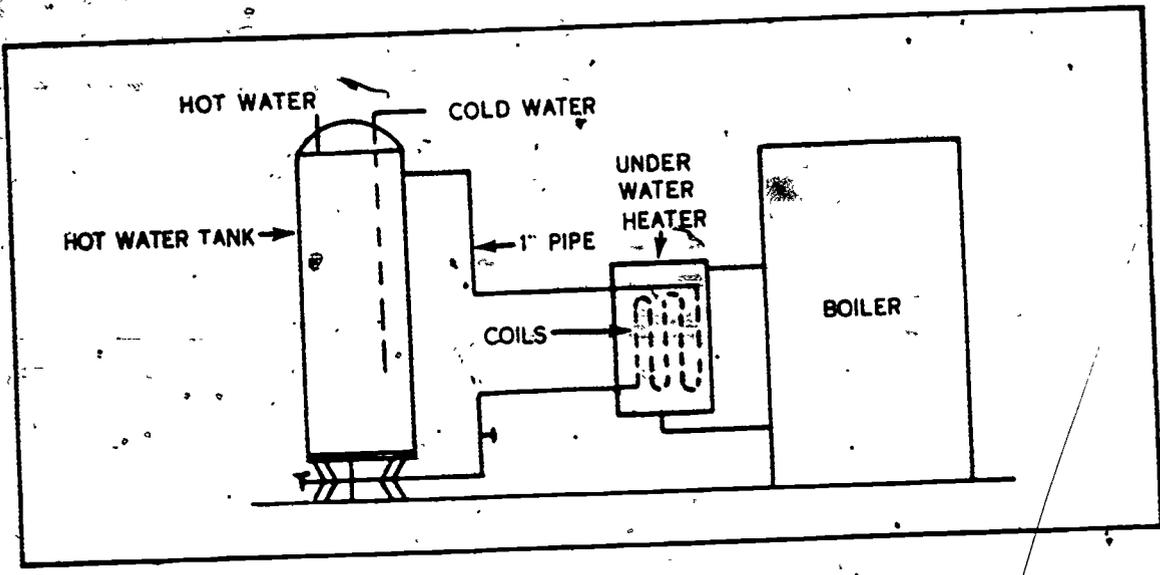

Figure 5-4. Underwater heater system.
*Underwater line heaters.* Underwater line heaters are used in domestic water systems where hot water or steam is used for heating a residence. The body of the heater is constructed of cast iron with a built-in copper coil. The inlet and outlet openings of the coil are connected to the boiler heating plant below the waterline. The boiler water flows around the coils and heats the water. An underwater heater system is illustrated in figure 5-4.